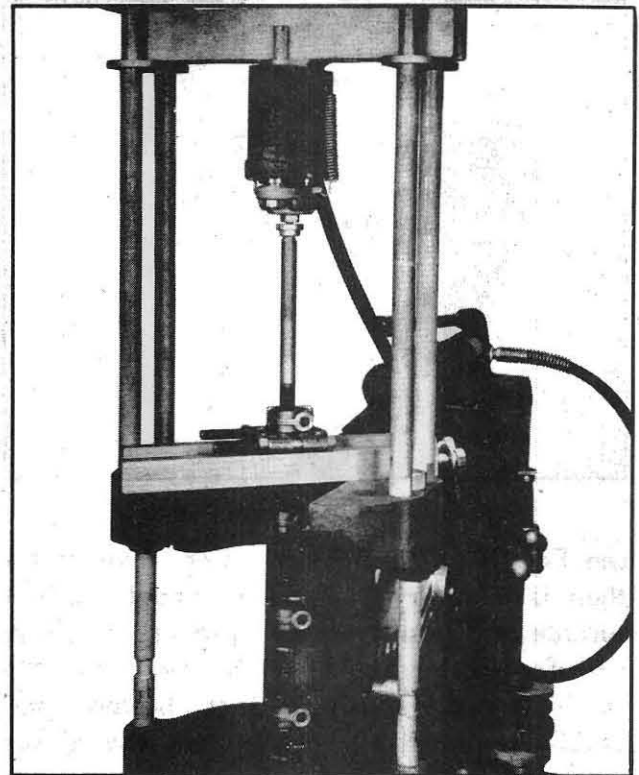

Fig. 54
3. Press the arms, supports and springs off the shaft, as shown in Fig. 54.